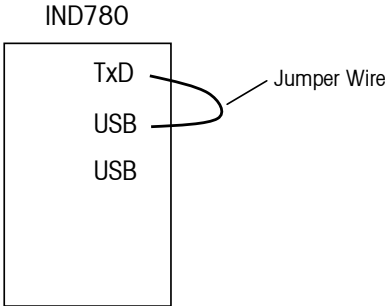

Figure 3-27: Jumper Wire Placed Between the Transmit and Receive Terminals
- If a jumper wire is placed between the transmit and the receive terminals (Figure 3-27) on the port being tested, the same data string that is transmitted displays as the receiving field.